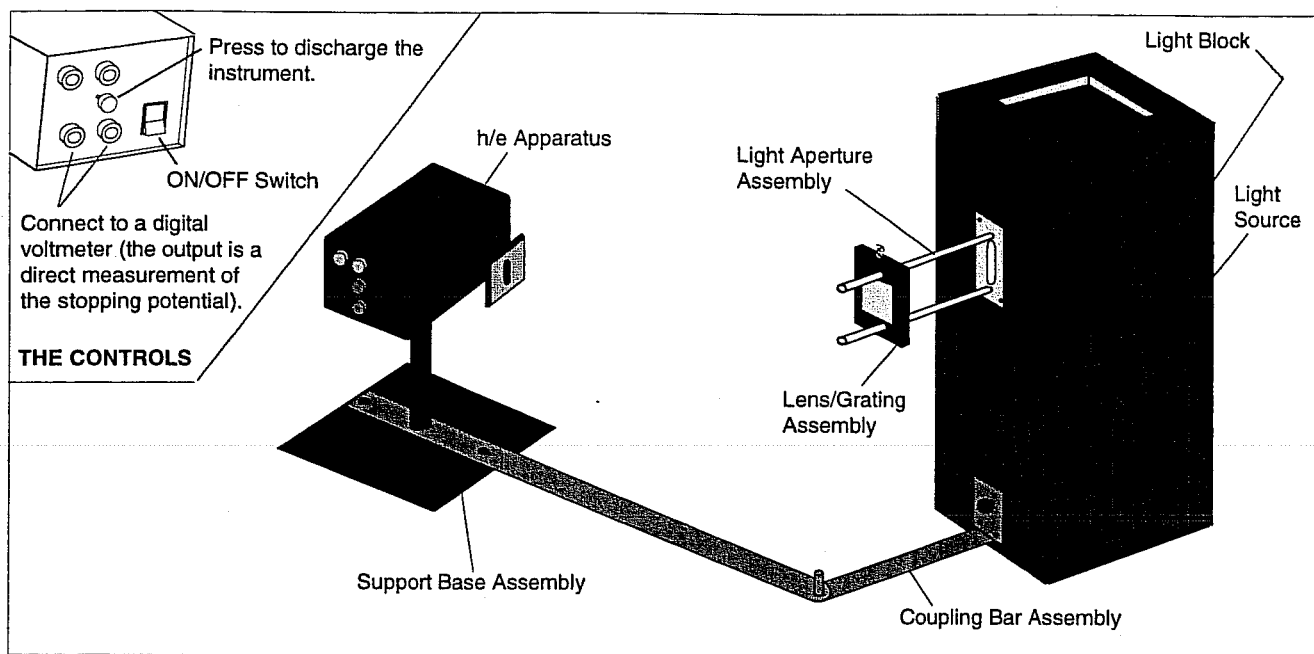
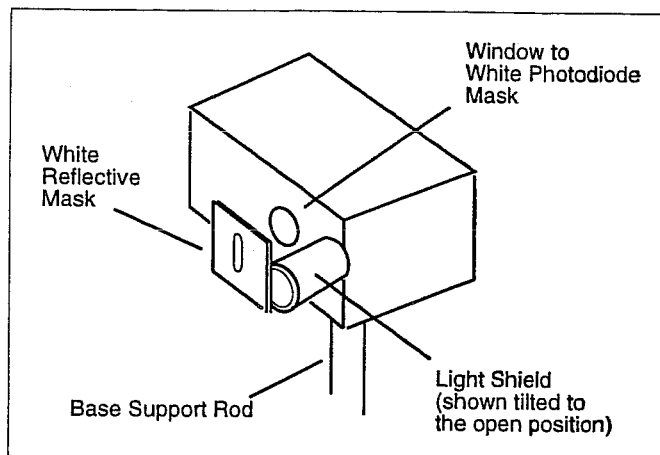

Figure 5: Equipment Setup Using a Mercury Vapor Light Source and the h/e Apparatus
Figure 9: h/e Light Shield
The standard setup for h/e experiments is shown in Figure 5. Details for setting up the apparatus are described below.
- ⑤ Insert the Coupling Bar assembly into the lower mounting groove of the Light Source (Figure 5). Secure in place by tightening the thumbscrew against the front of the Light Source housing.
- ⑥ Remove the screw from the end of the Support Base rod. Insert the screw through the hole in the Support Base plate and attach the rod to the Support Base plate by tightening the screw (use Phillips drive screwdriver).
- ⑦ Place the h/e Apparatus onto the Support Base Assembly.
- ⑧ Place the Support Base assembly over the pin on the end of the Coupling Bar assembly.
- ⑨ Connect a digital voltmeter (DVM) to the OUTPUT terminals of the h/e Apparatus. Select the 2V or 20V range on the meter.
- ⑩ Set the h/e Apparatus directly in front of the Mercury Vapor Light Source. By sliding the Lens/Grating assembly back and forth on its support rods, focus the light onto the white reflective mask of the h/e Apparatus (Figure 9).